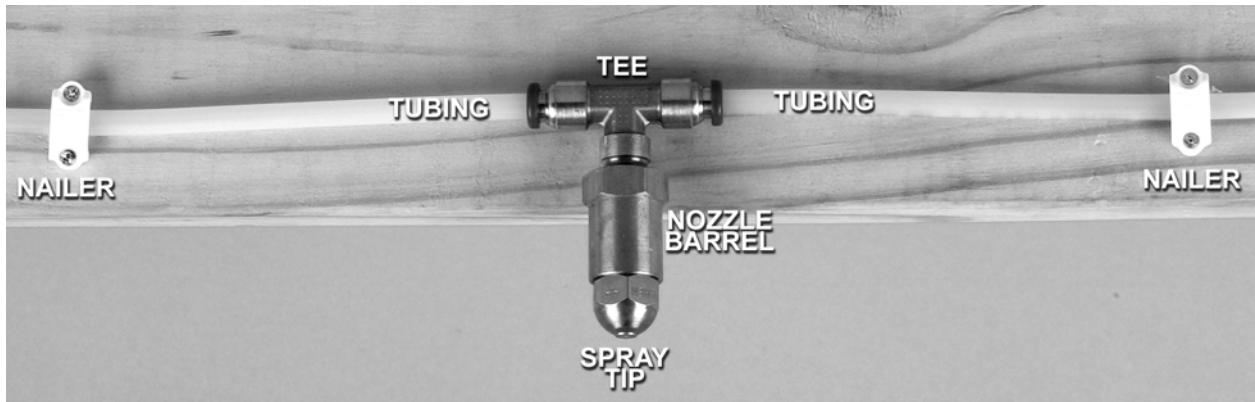

Figure 5 – Spray Nozzle Tee with Tubing and Nailers
10. Push the tubing firmly into the side of the spray nozzle tee (figure 5). Pull gently to confirm that you have secure connections. If leakage occurs, remove tubing by
11. Using the plastic nailers (figure 5) or plastic ties, install the tubing and spray nozzles above the center of each stall and 6 feet inside of each exterior door. Do not install above 15' from the floor. Use cable wire if necessary. Make sweeping turns with the tubing around corners to avoid kinking.